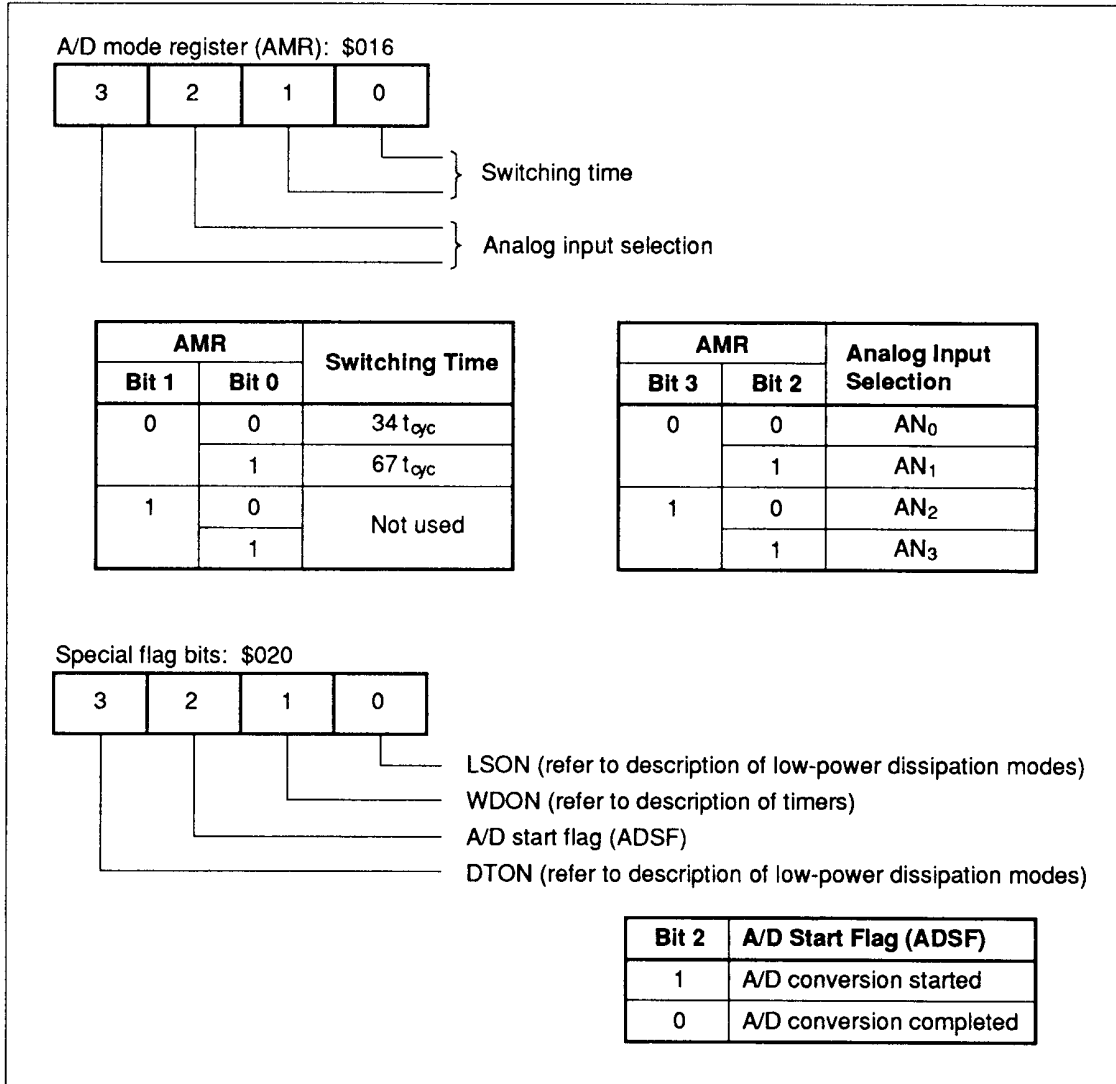

Figure 31 A/D Registers
**A/D Mode Register (AMR: \$016):** Four-bit write-only register which selects the A/D conversion period and indicates analog input pin information. Bit 0 of the AMR selects the A/D conversion period, and bits 2 and 3 select a channel, as shown in figure 31.
**A/D Start Flag (ADSF: \$020, 2):** One-bit flag that initiates A/D conversion when 1 is written to it. At the completion of A/D conversion, the converted data is stored in the A/D data register and the ADSF is cleared. Refer to figure 31.